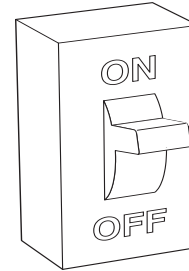

Fig. 10 – Turn On Electrical Supply
9. Turn ON the electrical supply to the furnace, see Fig. 10.
- Turn on electrical supply to furnace, see Fig. 10.